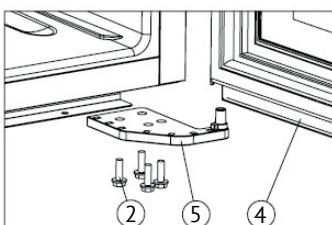

Figure 2
- ➲ Unscrew the M5*16 screws ②, dismantle the right lower hinge ⑤ (Figure 2).